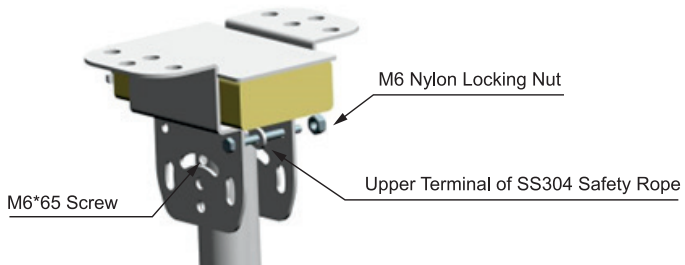

Figure 3.4
④ Connect the safety rope by inserting a M6\*65 hexagonal screw through the holes beneath the inverter frame, and passing the upper terminal of SS304 wire rope which is extended from the middle of the extension tube (see Figure 3.4). Then use flat washer, spring washer, and a M6 nylon locking nut to fasten